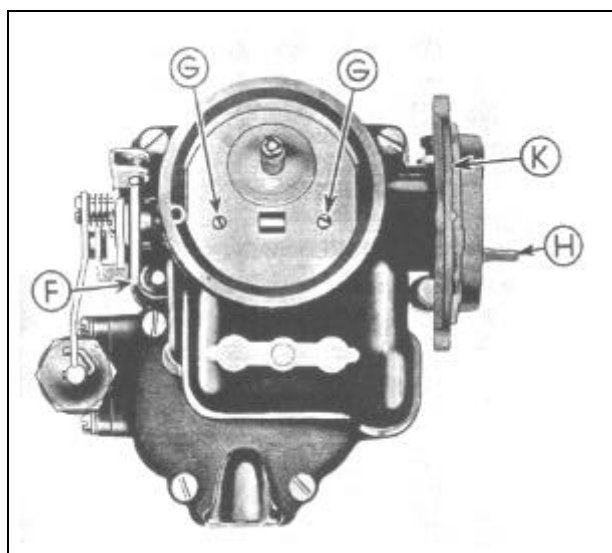

Figure 437
(154) Remove screw that holds choker trip lever (F) (Figure 437 ). Choke shaft washer, choke trip lever and fast
(156) Remove two choke valve screws (G) and choke valve assembly (Figure 437).